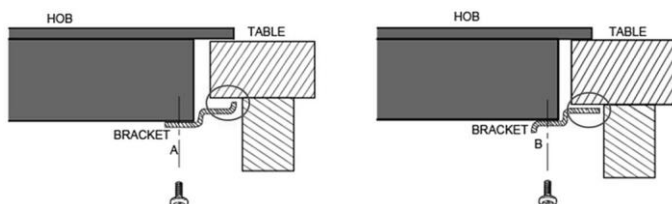

Fig. 6
- Make sure that following the installation the brackets do not touch internal surfaces of the work top table board (see Fig. 6).